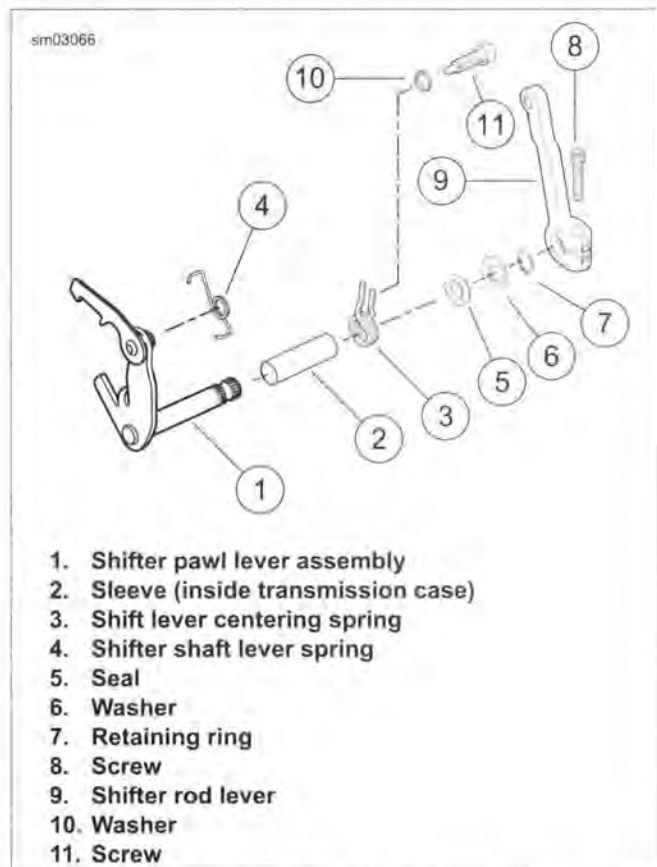
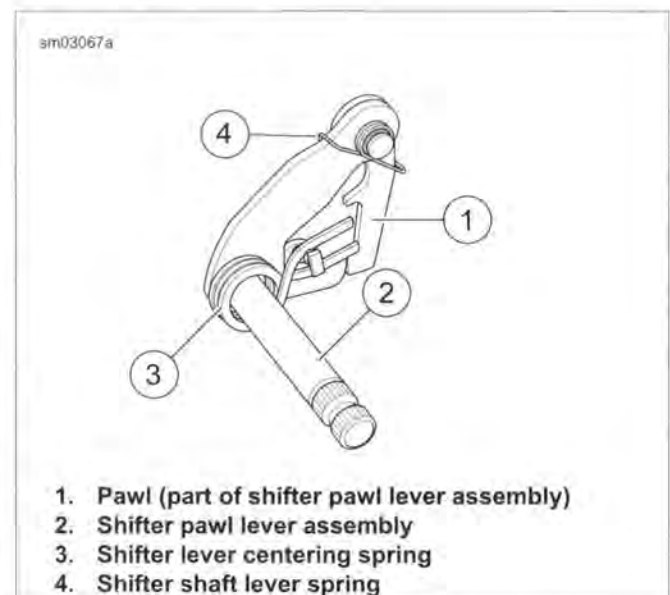

Figure 6-55. Shifter Arm Assembly
Figure 6-56. Shifter Pawl Lever Assembly
1. See Figure 6-55. After removing bearing housing and transmission assembly, remove screw (8). Remove shifter rod lever (9) from the shifter pawl lever assembly (1).
2. Remove retaining ring (7), washer (6) and seal (5). Discard retaining ring and seal. Pull shifter pawl lever assembly out of the transmission case.
3. Inspect sleeve (2) inside transmission case.
2. See Figure 6-55. Inspect the shifter pawl lever assembly (1) for wear. Replace assembly if pawl ends are damaged. Replace centering spring (3) if elongated.
3. Inspect the shifter shaft lever spring (4). Replace if the spring fails to hold the pawl on the cam pins.
1. See Figure 6-55. Verify that sleeve (2) is inside transmission case.
2. Install screw (11) and washer (10) into side of transmission case. Tighten to 18-23 ft-lbs (24.4-31.2 Nm).
3. See Figure 6-56. Slide shifter lever centering spring (3) over shaft of shifter pawl lever assembly (2). Align opening on spring with tab on lever.
4. Place shifter shaft lever spring (4) on shifter pawl lever assembly.
9. See Figure 6-55. Install shifter rod lever (9) on the shifter pawl lever assembly shaft using screw (8). Tighten to 18-22 ft-lbs (24.4-29.8 Nm).